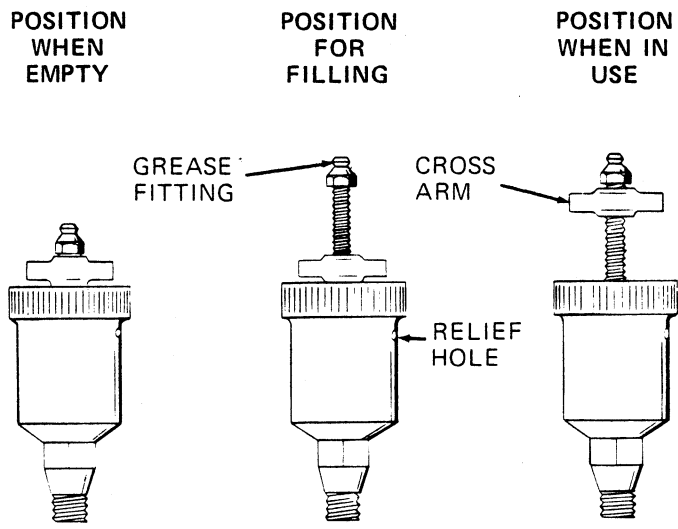

Figure 3. Automatic Lubricating Grease Cup
Before removing the seal assembly, turn the cross arm on the seal grease cup (10) clockwise until it rests against the cover (see figure 3). This will prevent the grease in the cup from escaping after the seal is removed.
Before starting the pump, fill the grease cup through the grease fitting with a good grade of No. 2 pressure gun grease until grease escapes from the relief hole. Turn the grease cup counterclockwise until it is at the top of the stem; this will release the spring to apply grease to the seal (see figure 3).